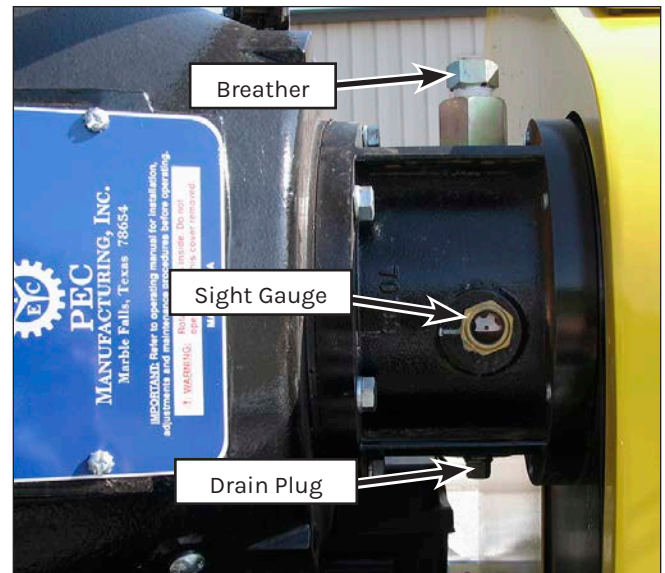

Figure 136: PTO.
1. With the engine off, remove the drain plug (Figure 136) from the oil drain valve located on the back of the power end case.